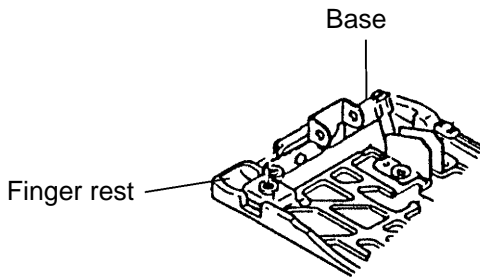

Fig. 6
(8) Other selling points
- A finger rest is provided on the base for accurate cutting (Fig. 6).